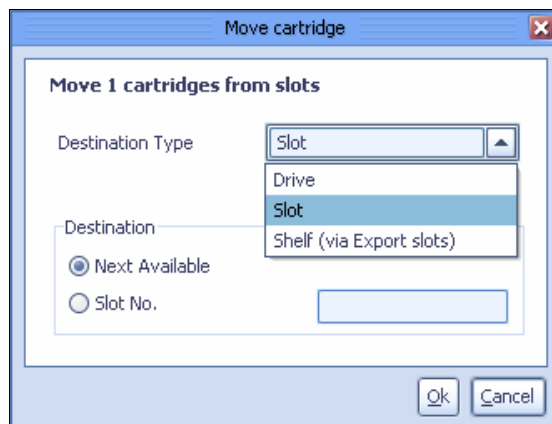

Figure 10-116 Move cartridge destination window
4. Select **VT** → **VT Cartridge** → **Move cartridges**. The Move cartridge window opens (Figure 10-116).